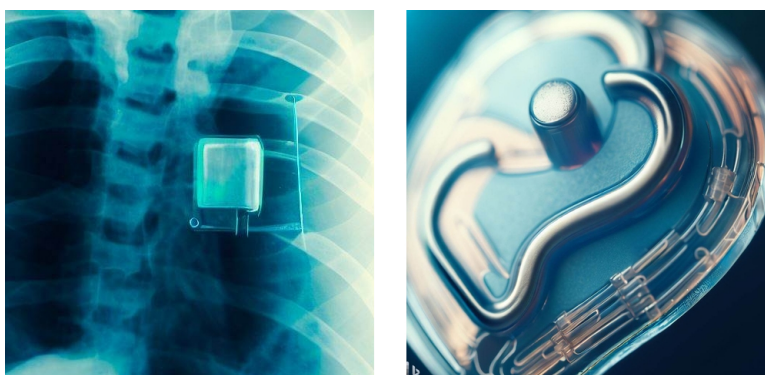

Figure 4: A Pacemaker Implant
- **Wearable medical devices:** Wearable medical devices such as pacemakers (Figure 4) and glucose monitors often contain chips that allow them to measure and transmit data about the patient's health to healthcare professionals.